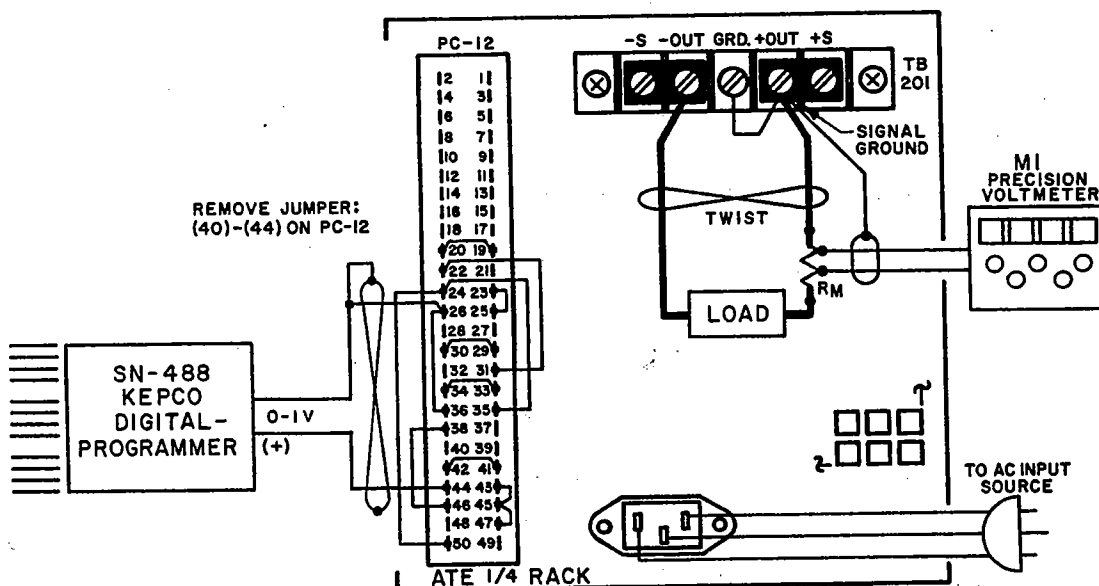

FIG. 3-11 CONNECTIONS FOR OUTPUT CURRENT CONTROL WITH A 0-1 VOLT CONTROL SIGNAL (KEPCO SN-488 DIGITAL PROGRAMMER).
- 3-58 GENERAL. The ATE output current, controlled by a front panel CURRENT CONTROL rheostat in the local control mode, can be remotely controlled by disconnecting the 15V bias from the non-inverting input of the EXT. CURRENT COMPARISON AMPL at the REAR PROGRAMMING CONNECTOR, and applying a 0 to 1 volt external control signal with reference to the ATE COMMON terminal. Since the non-inverting input of the EXT. CURRENT COMPARISON AMPL is used, only the small amplifier bias current must be supplied by the external control source. IN ALL CURRENT PROGRAMMING APPLICATIONS, THE FRONT PANEL CURRENT CONTROL SETTING OF THE ATE ACTS AS A "BACK-UP" CURRENT LIMIT AND MUST BE SET SLIGHTLY HIGHER THAN THE REQUIRED MAXIMUM OUTPUT CURRENT. An application, demonstrating this control method is described in PAR. 3-60 and illustrated in FIG. 3-11.
- 1) Connect the EXT. CONTROL VOLTAGE, (Model SN-488 Digital Programmer), the LOAD and the PRECISION VOLTMETER (M1) to the ATE as shown in FIG. 3-11.
Note: The output current value can be measured directly by means of a suitable ammeter in series with the load or, as indicated in FIG. 3-11, indirectly by means of the precision voltmeter (M1) across a current measuring resistor (R_M). R_M should be selected such that a convenient range on the precision voltmeter can be used, e.g., for a 10 ampere output current, use a 0.1 ohm resistor to produce a one volt full scale reading. If an electronic voltmeter is used, it should be battery-operated to avoid ground loops.